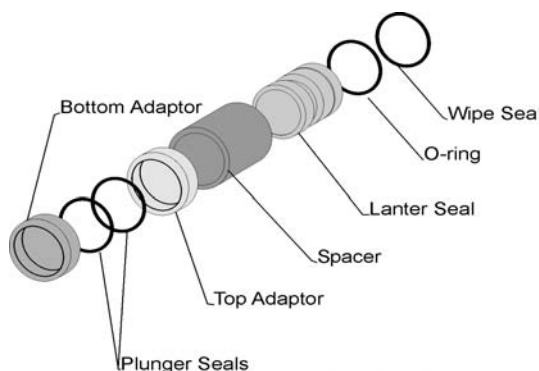

Figure 41 Cylinder Seals
1. Install the Cylinders/Seals See Figure 41 for seal identification and order. Coat O-ring seals with an acceptable lubricant.